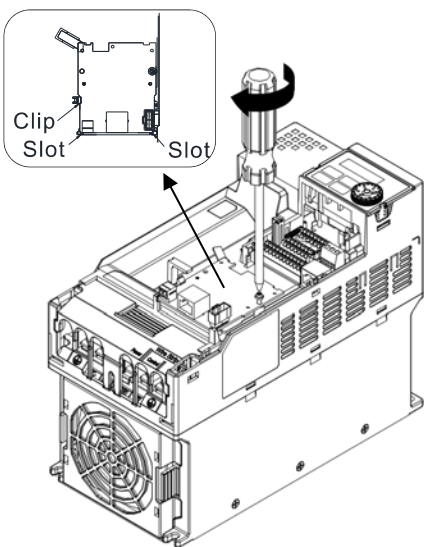

Figure 8-35
4. Make sure that clips are properly engage the option card, and then fasten the screws [Suggested torque value: 4–6 kg-cm / (3.5–5.2 lb-in.) / (0.39–0.59 Nm)], as shown in the Figure 8-35.